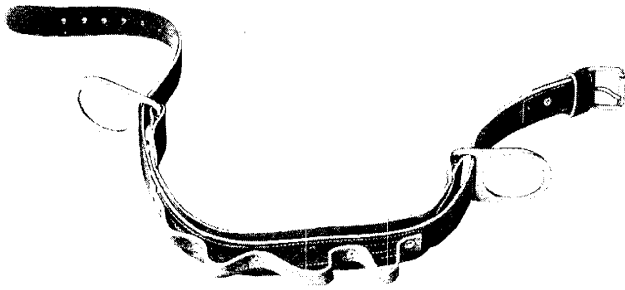

Fig. 1—C Body Belt
**2.03** Fig. 1 shows a C Body Belt as a "Left" belt. To be worn as a "Right" belt, the belt is turned over so that the belt buckle is on the left side of the wearer. When ordering combination holsters for use with the belt, specify either "Left" or "Right" type.